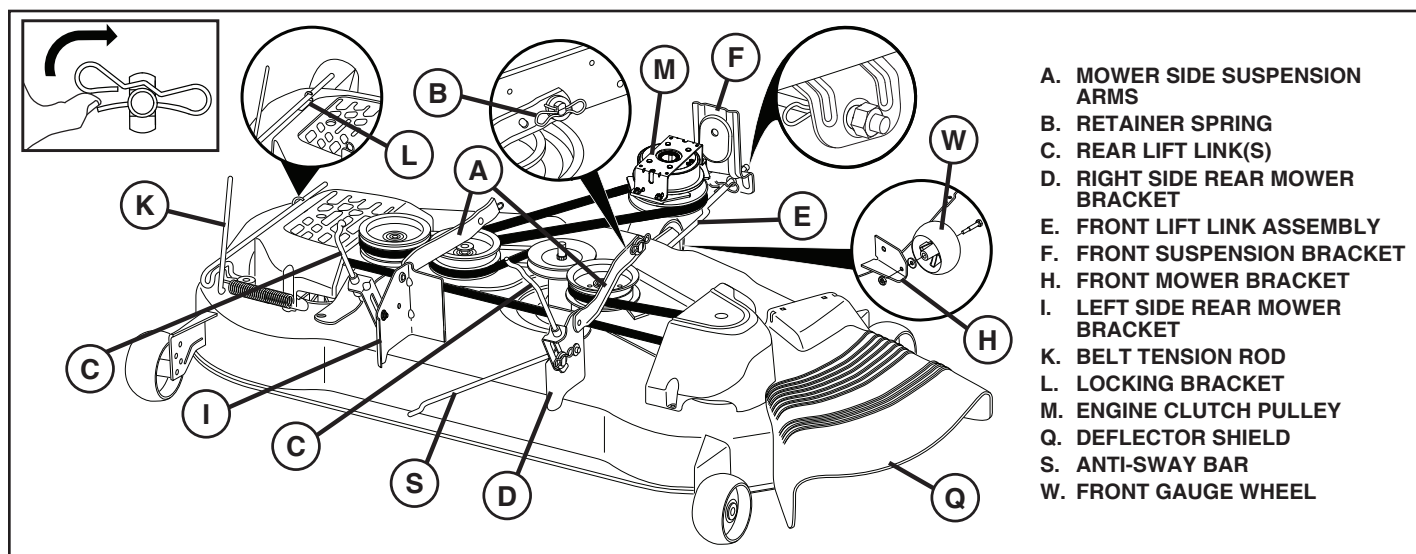

Fig. 7
9 INSTALL BELT ON ENGINE CLUTCH PULLEY (M) (See Fig. 7 & 15)
- Disengage belt tension rod (K) from locking bracket (L).
- Install belt onto engine clutch pulley (M).